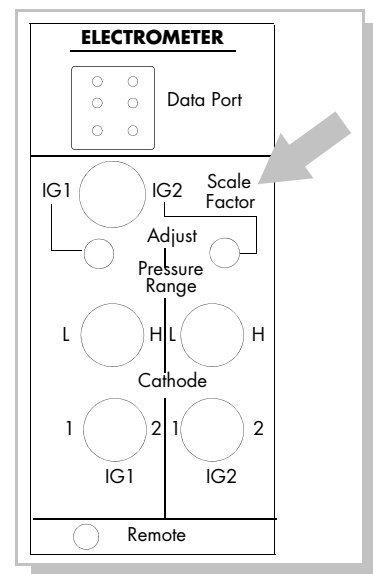

Figure 4-20 Electrometer Module Showing Scale Factor Switch.
1. Be sure the scale factor switch on the electrometer module is in its center position (Figure 4-20), or the calibration data in display line 1 will conflict with the display of setpoints 1 and 2.